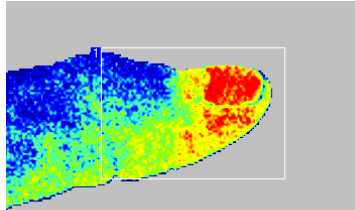

Figure 7-3 ROI on perfusion image.
1. Draw the ROI by clicking and holding the mouse button in one of the images, dragging the ROI out to the desired size, and releasing the mouse button (click and double-click for free form ROI:s). You can draw ROI:s on either of the images (perfusion, intensity or photo image). Figure 7-3 shows a rectangular ROI on a perfusion image.